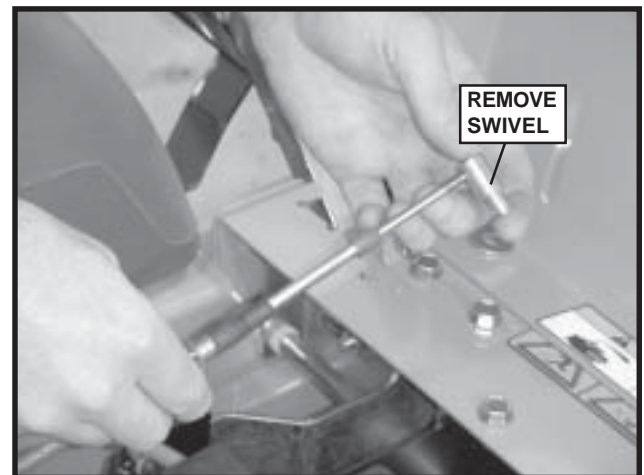

FIGURE 10
3. Being careful not to apply a side load to the end of the cable, pull the cable out so the control swivel is accessible and remove the swivel from the cable end. See Figure 10. Repeat on other side.